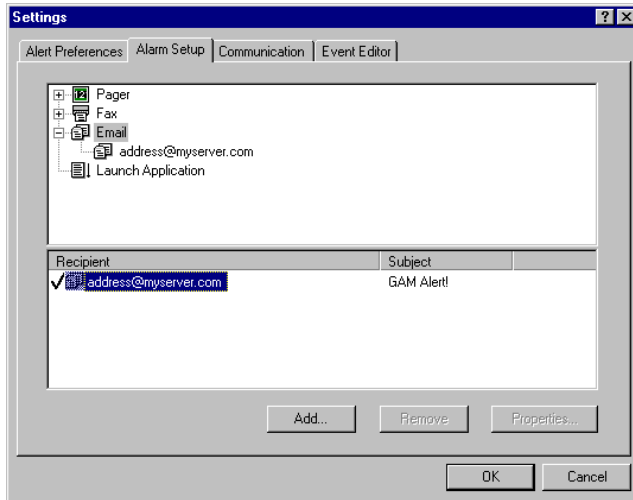

Figure 4-15. Email Alarm Setup
1. Select the Email alarm type in the upper window of the Alarm Setup dialog box (Figure 4-15).
Your new Email entry appears in the lower window of the Alarm Setup dialog box. (Refer back to Figure 4-15 for an example.)